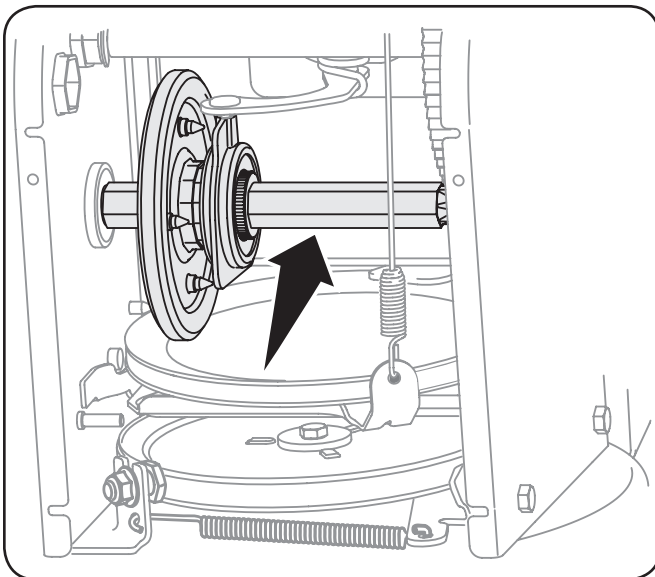

Figure 6-4
4. Apply a light coating of engine oil (or 3-in-1 oil) to the hex shaft. See Figure 6-4.